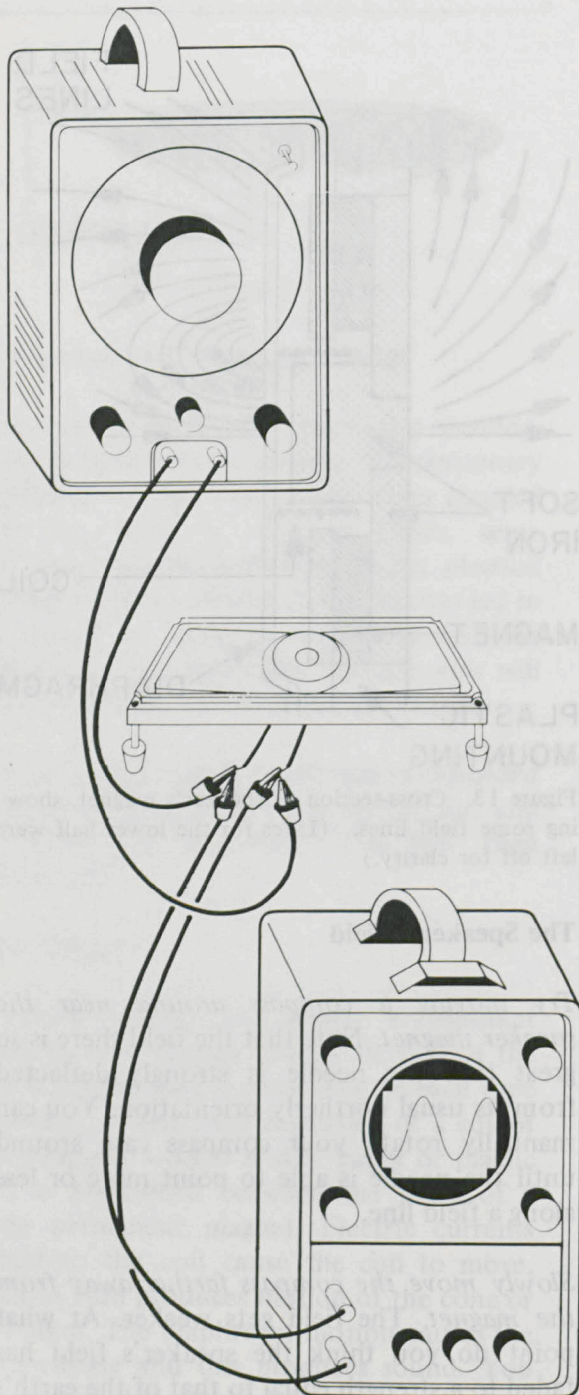

Figure 14.
4. Try different settings of the amplitude and frequency controls on the oscillator. On the scope, you should be able to get a pattern something like the one on the scope in Figure 14. This pattern is called a sine wave or a sinusoidal pattern. Your oscillator may also have square-wave and/or triangular-wave outputs. If so, try them. Listen to the difference. Which wave sounds most "pure"? What does "pure" mean to you when applied to sound?